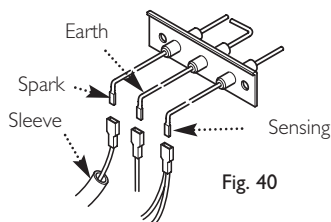

Fig. 40
7. Disconnect the leads from the centre and right hand terminals (earth and flame sensing probe) (Fig. 40). Reconnect in reverse order.